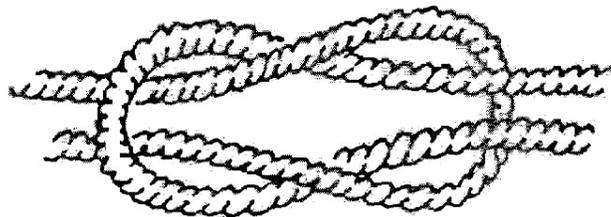

Figure 3-77
3. Tie a square knot (see Figure 3-77).